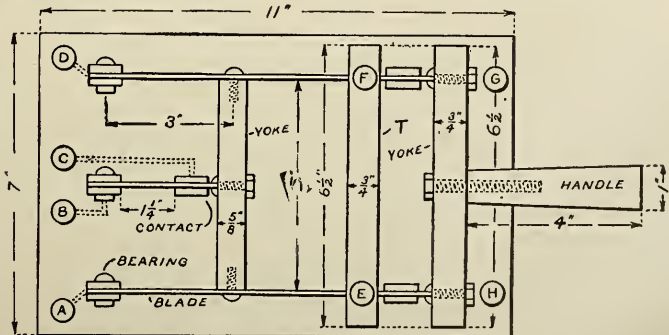

FIG. 15. PLAN OF SWITCH
Eight binding posts are mounted on the base and on the "T". They make connection to the bearing or contact to which they are nearest as indicated by the dotted lines. (A) and (D), Fig. 15, connect respectively to the aerial and the ground; (B) and (C) are included in the primary circuit of the induction coil or transformer or are placed directly across the detector terminals; (E) and (F) lead to the receiving apparatus, while (G) and (H) are connected with the transmitting instruments. A wiring diagram of the complete transmitter showing the position of the aerial switch will be given later.